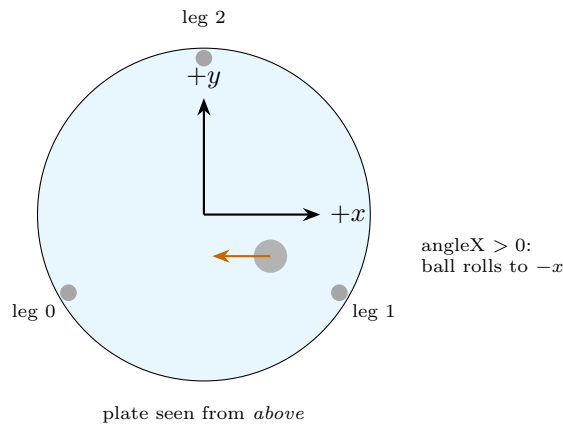

Figure 2: Plate coordinates seen from above. Leg 2 is on the $+y$ side.
- **Positions** are in millimetres on the plate surface. The origin is at the centre of the plate, and x and y are the plate's axes (fig. 2). The plate has a radius of 100 mm; a 20 mm ball falls off once its centre is beyond 100 mm.